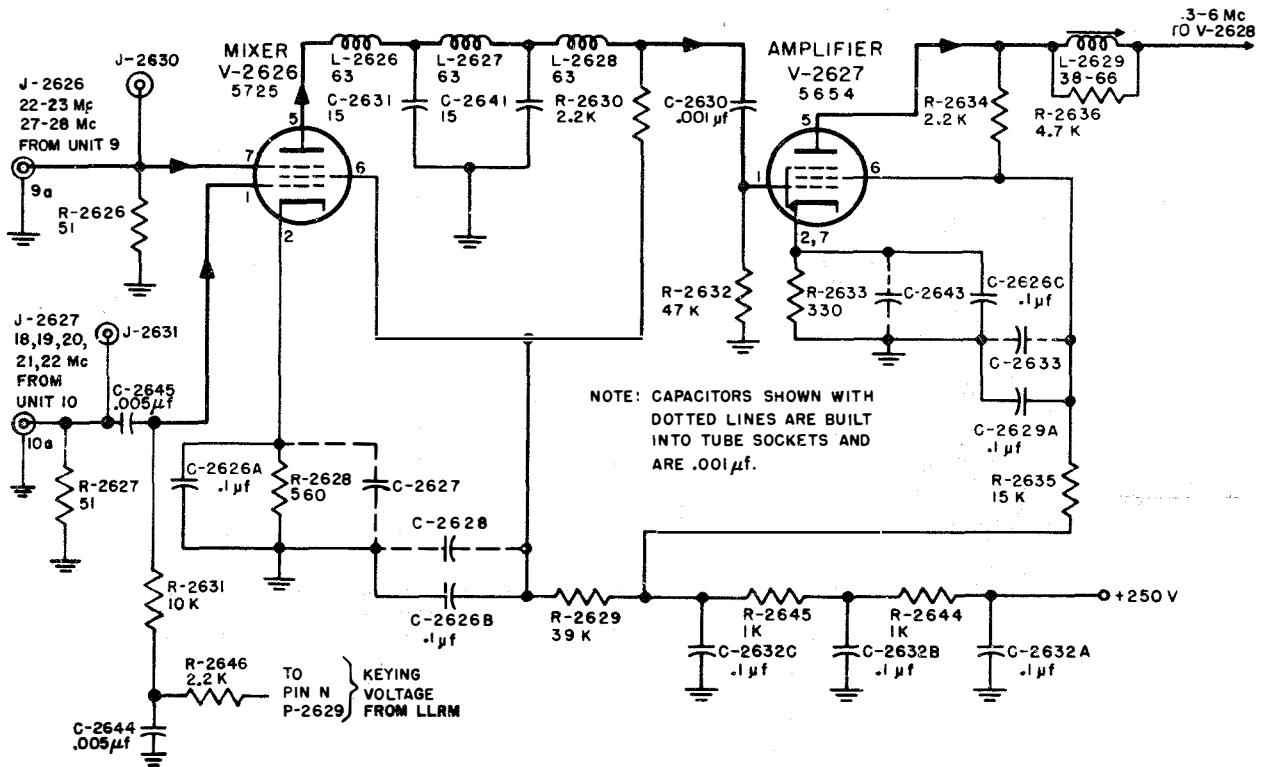

Figure 2-34. RFO Unit 11A, Mixer V-2626 and Amplifier V-2627, Simplified Schematic
(1) MIXER V-2626.—The output (10a) of unit 10 is applied from J-2627 to the control grid of mixer V-2626 (figure 2-34) through coupling capacitor C-2645. The output (9a) of unit 9 is applied from J-2626 to the mixer suppressor grid. Test points J-2630 and J-2631 are provided for testing inputs 9a (approximately 1.4 volts) and 10a (approximately 0.3 volt), respectively. Mixer V-2626 produces an output in accordance with the frequency settings on the mounting front panel. For example, if the desired output is from zero to one megacycle, the mixer will receive 22 to 23 mc from unit 9 and 22 mc from unit 10. A low-pass filter, comprising L-2626, L-2627, L-2628, C-2631, and C-2641, extends the high-frequency response to six megacycles. R2626 and R-2627 are terminating resistors for the inputs from units 9 and 10. The output of the keying circuit of the low level radio modulator (see paragraph 7c(7)) is connected to the control grid of V-2626 through a decoupling filter comprising C-2644 and R-2646 and grid resistor R-2631. In FSK and facsimile operation a permanent ground is applied and V-2626 conducts as explained above. In hand-key and machine-key operation the keying signal, zero for mark and -35
(2) AMPLIFIERS V-2626 AND V-2628.— The mixer output is amplified by V-2627 and V-2628 (figures 2-34 and 2-35). These amplifiers are identical and are provided with video compensation (L-2629 and L-2630) to extend the high-frequency limit. In addition to the decoupling filter, comprising C-2632, R-2645, and R-2644, which serves all of the stages in unit 11A, the mixer and amplifiers are further decoupled from the B+ power supply by capacitors C-2626 and C-2629.